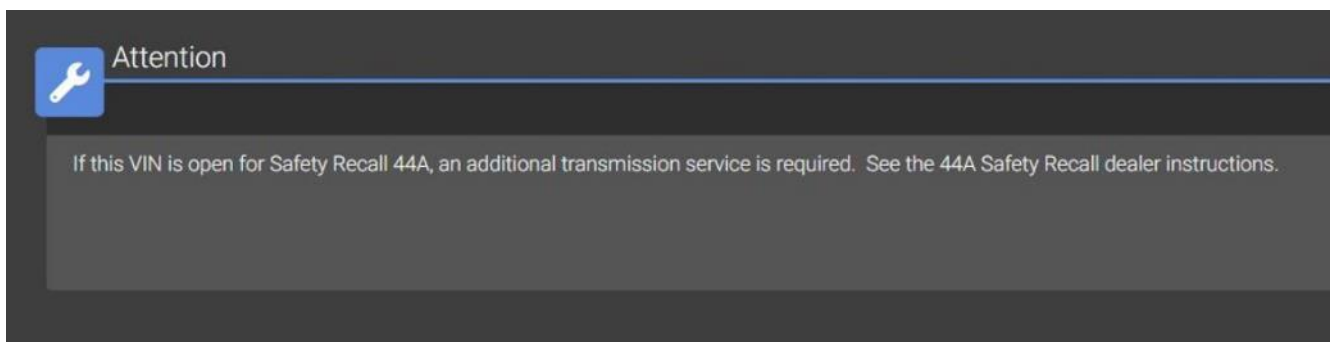

Figure 1 – wiTECH Popup Message
8. Take note if a wiTECH message pop-up appear stating "If this VIN is open for Safety Recall 44A, an additional transmission service is required. See the 44A Safety Recall dealer instructions." (Figure 1). This message can be ignored at this time but does indicate additional steps may be required later in this procedure.